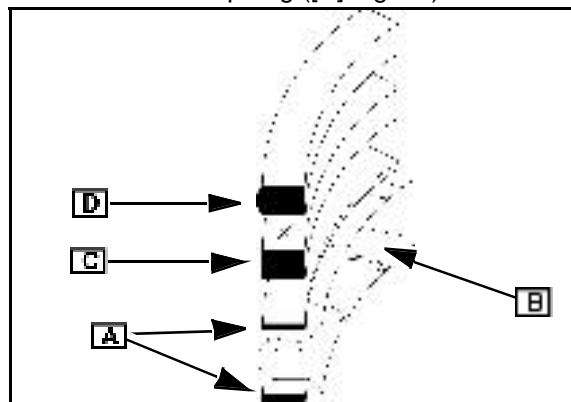

Fig. 13
**NOTE:** The top ring ([D] Fig. 13) is barrel faced and plated.
1. Install the expander oil and control rings (A) and expander (B).
2. Install the center ring (C) with the "Id" mark facing up.
3. Install the top ring ([D] Fig. 13).